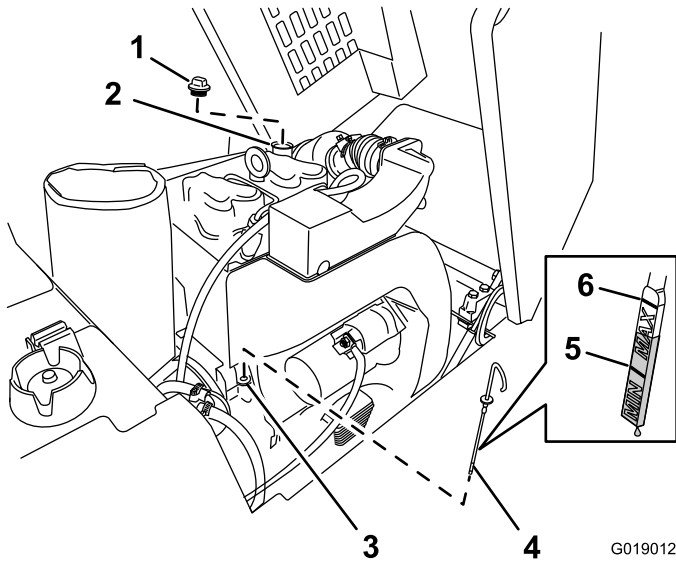

Figure 27
4. Clean around the oil dipstick and dipstick fitting (Figure 27).
8. If the oil level is below the Min-level mark on the dipstick (Figure 27), perform the following steps:
- A. Clean around the oil-filler cap, and remove the cap (Figure 27).
- B. Slowly pour enough oil into the oil-fill tube to raise the level on the dipstick to between the Min- and Max-oil level (Figure 27).